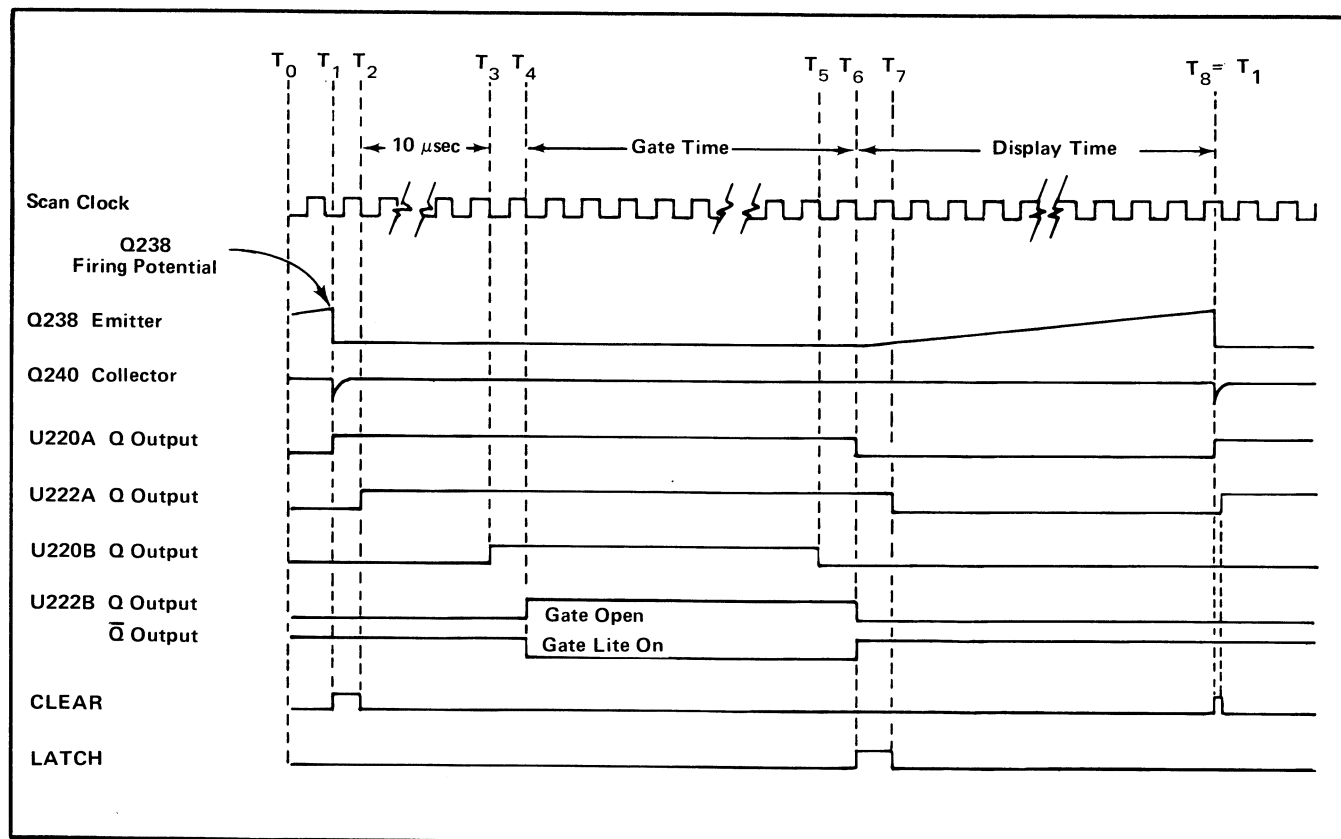

Fig. 2-1. Time Base generator normal gating mode ladder diagram.
Assume that the  $T_0$  conditions are as given in Fig. 2-1. The Q outputs of U220A, U222A, U220B, and U222B are all LO. Q230 is off and the emitter of Q238 rises as C235 charges. At  $T_1$ , Q238 reaches its firing potential and discharges the capacitor. This results in a short-duration LO pulse on the direct-set input (pin 2) of U220A, forcing its Q output HI and its  $\overline{Q}$  output LO. With two HI inputs on NAND gate U230A, its output goes LO and the output of
At the end of a 10-microsecond delay (time for the DDU's to count the first digit, plus a propagation delay), a negative transition from the DDU's via the MEASUREMENT INTERVAL switch toggles U220B. This corresponds to  $T_3$  in Fig. 2-1. U220B's Q output goes HI and its  $\bar{Q}$  output goes LO. The next negative transition from the 1-MHz clock ( $T_4$ ) toggles U222B, causing its Q output to go HI (GATE open) and its  $\bar{Q}$  output to go LO (supplying current to the front-panel GATE indicator LED, DS225). The GATE signal is also applied to the base of Q230, saturating the transistor and preventing C235 from charging.
The GATE remains open (HI) for the time duration selected by the MEASUREMENT INTERVAL switch. At the end of this time, which corresponds to  $T_5$  in Fig. 2-1, another negative transition from the DDU's toggles U220B. U220B's Q output goes LO and its  $\bar{Q}$  output goes HI. The next negative transition from the 1-MHz clock ( $T_6$ ) toggles U222B, causing its Q output to go LO, closing the GATE. Simultaneously, the  $\bar{Q}$  output goes HI, removing current from the GATE indicator LED.